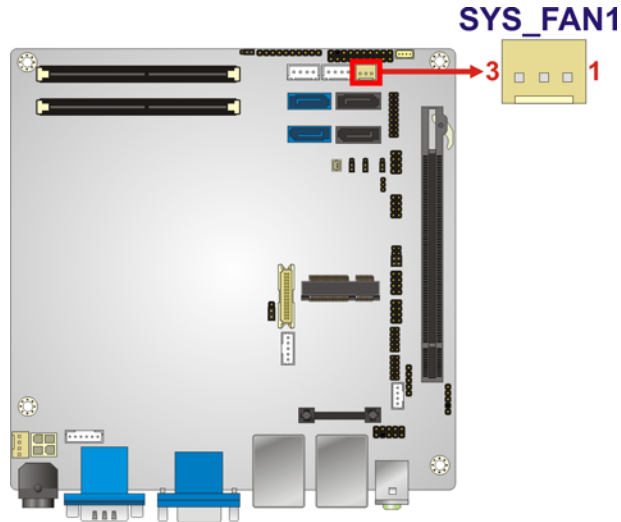

Figure 3-8: +12V Fan Connector Location
- CN Location:** See **Figure 3-8**